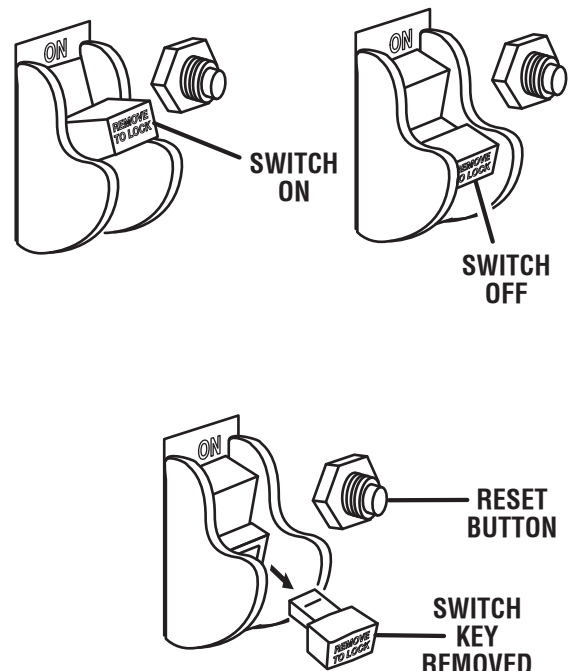

Fig. 23
**NOTE:** To prevent unauthorized use, remove the switch key as shown in figure 23.